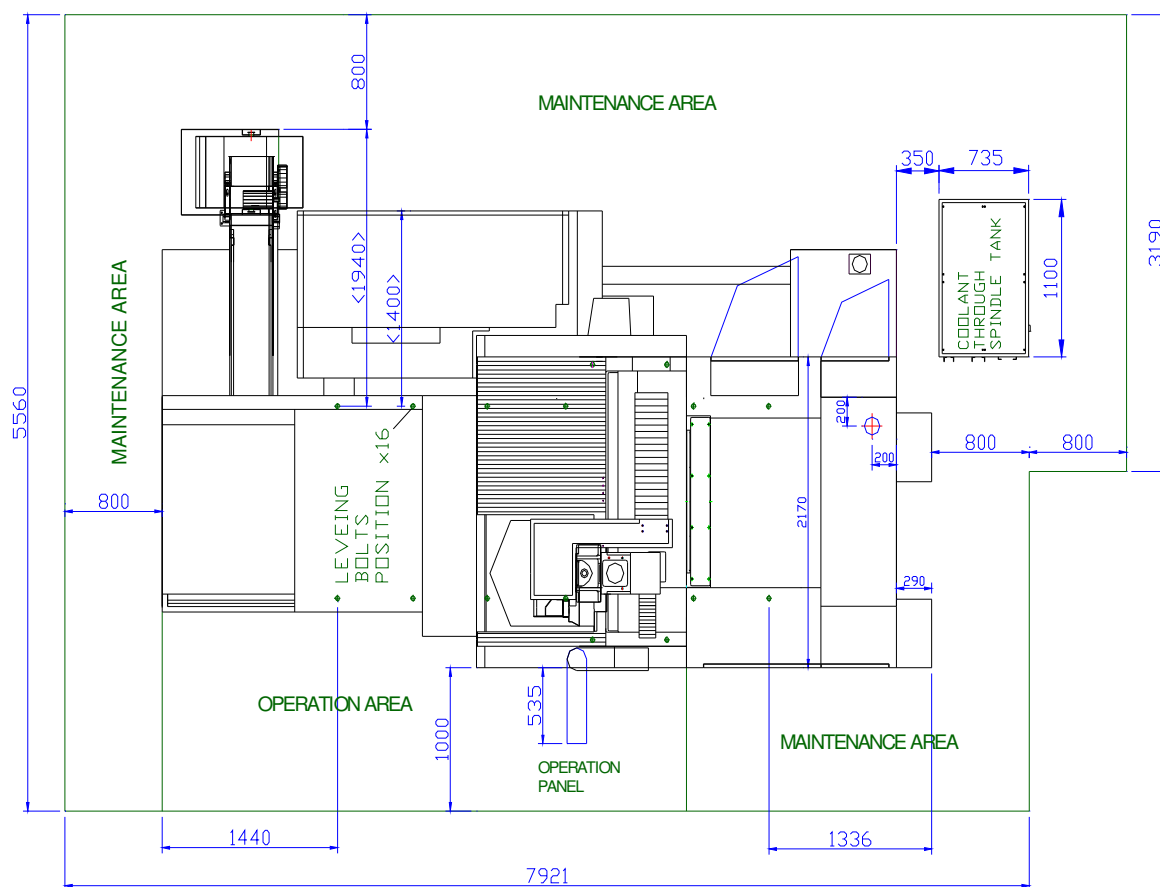

FIG 3.5.1 INSTALLATION SPACE
- RESERVED SPACE FOR OPERATION AREA AND MAINTANCE AREA IS NECESSARY FOR SAFTY AND EFFENCY USE OF THE MACHINE AFTER INSTALLATION, FIG 3.5.1.